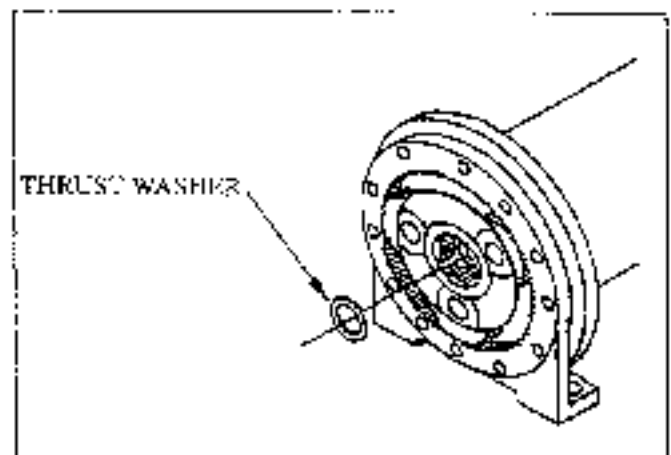

Figure 26
4. Install the retaining ring and then the thrust washer. See Figure 26.